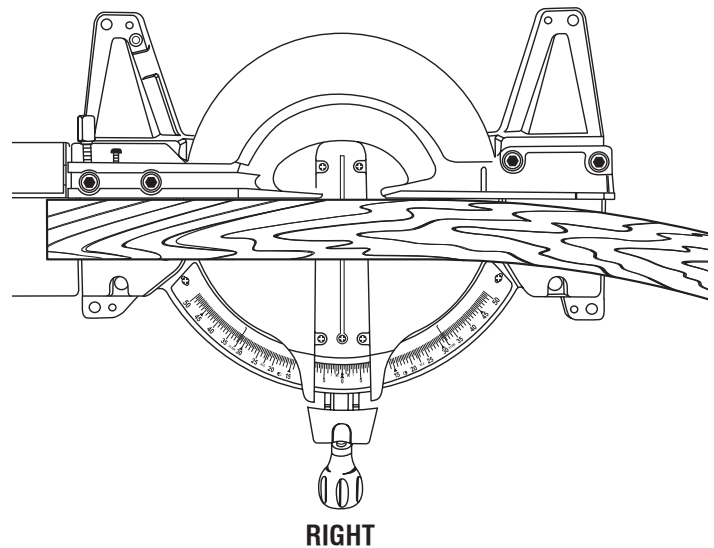

Fig. 34
- Place the workpiece flat on the miter table with one edge securely against the fence. If the board is warped, place the convex side against the fence. If the concave edge of a board could collapse on the blade at the end of the cut, jamming the blade. *See Figures 34 - 35.*
See Figures 34 - 35.
When cutting warped material, always make sure it is positioned on the miter table with the convex side against the fence as shown in figure 34.